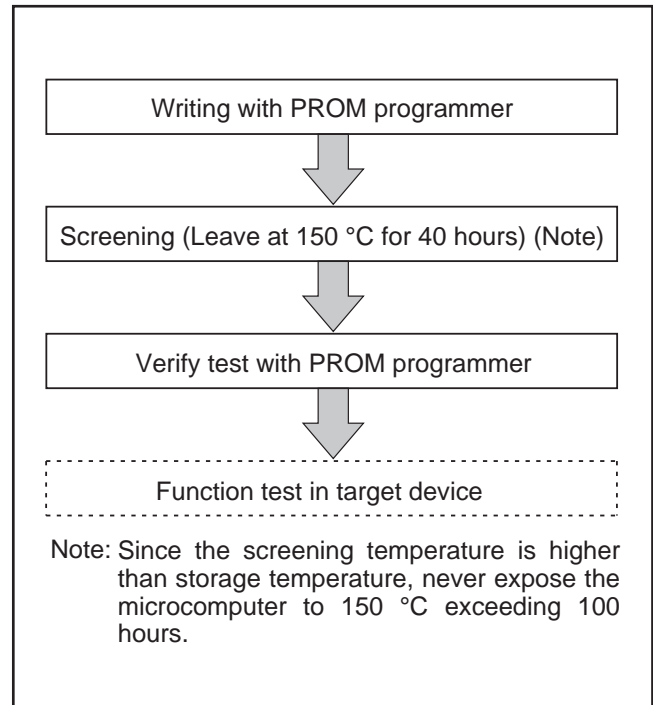

Fig. 31 Flow of writing and test of the product shipped in blank
(6) Notes on handling
- ① A high-voltage is used for writing. Take care that overvoltage is not applied. Take care especially at turning on the power.
- ② For the M34280E1FP/GP, Mitsubishi Electric corp. does not perform PROM writing test and screening in the assembly process and following processes. In order to improve reliability after writing, performing writing and test according to the flow shown in Figure 31 before using is recommended.